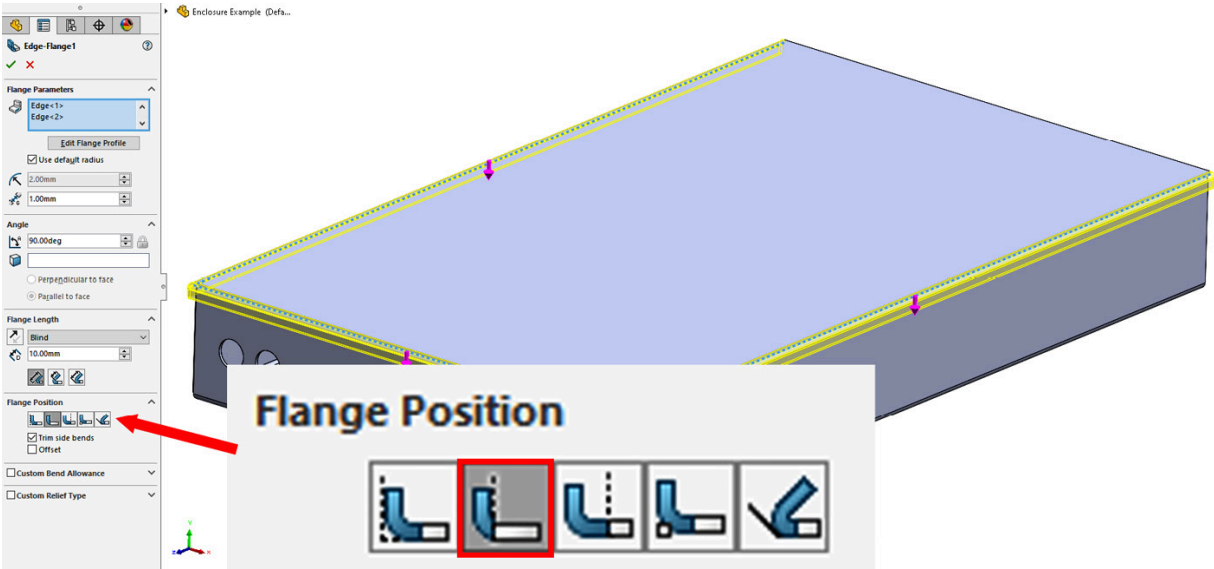

Figure 13.15 – Add three Edge Flanges to the lid
1. Select the **Edge Flange** tool and use it to add flanges to the short, front edge and the two longer side edges (*Figure 13.15*). These flanges can be **10mm** long, with a **90°** angle.